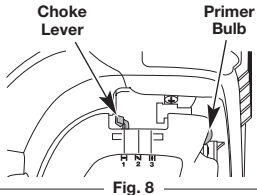
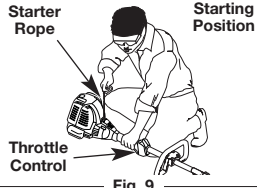

Fig. 8
Fig. 9
3. Fully press and release the primer bulb **10** times, slowly. Some amount of fuel should be visible in the primer bulb (Fig. 8). If fuel cannot be seen in the bulb, press and release the bulb until fuel is visible.
4. Move the choke lever to **Position 1** (Fig. 8).
5. Crouch in the starting position (Fig. 9). **SQUEEZE and HOLD the throttle control for ALL further steps.** Pull the starter rope **5** times.
6. **Continue to squeeze the throttle control.** Move the choke lever to **Position 2** (Fig. 9).
9. **Continue to squeeze the throttle control.** Move the choke lever to **Position 3** (Fig. 8).
5. Crouch in the starting position (Fig. 9). Place the electric starter or Power Start Bit™ into the back of the unit (Fig. 38). Refer to the *Operation* section of the Electric Starter or Power Start Bit™ operator's manual.
6. **SQUEEZE and HOLD the throttle control for ALL further steps.** Press and hold the electric starter or drill ON (I) button for 2 seconds.
7. **Continue to squeeze the throttle control.** Move the choke lever to **Position 2** (Fig. 8).
8. **Continue to squeeze the throttle control.** Press and hold the electric starter or drill ON (I) button for 2-second intervals until the unit starts.
11. **Continue to squeeze the throttle control.** Move the choke lever to **Position 3** (Fig. 8).
**IF...** the engine fails to start after a few attempts, move the choke lever to **Position 3** and squeeze the throttle control. Press and hold the electric starter or drill ON (I) button for 2-second intervals until the unit starts.
**IF THE ENGINE IS HOT...** Move the choke lever to **Position 2**, press the primer bulb **10** times, squeeze the throttle control, and press and hold the electric starter or drill ON (I) button for 2-second intervals until the unit starts. Run the unit for 2-5 minutes. The unit may be used during this time. Then move the choke lever to **Position 3**.